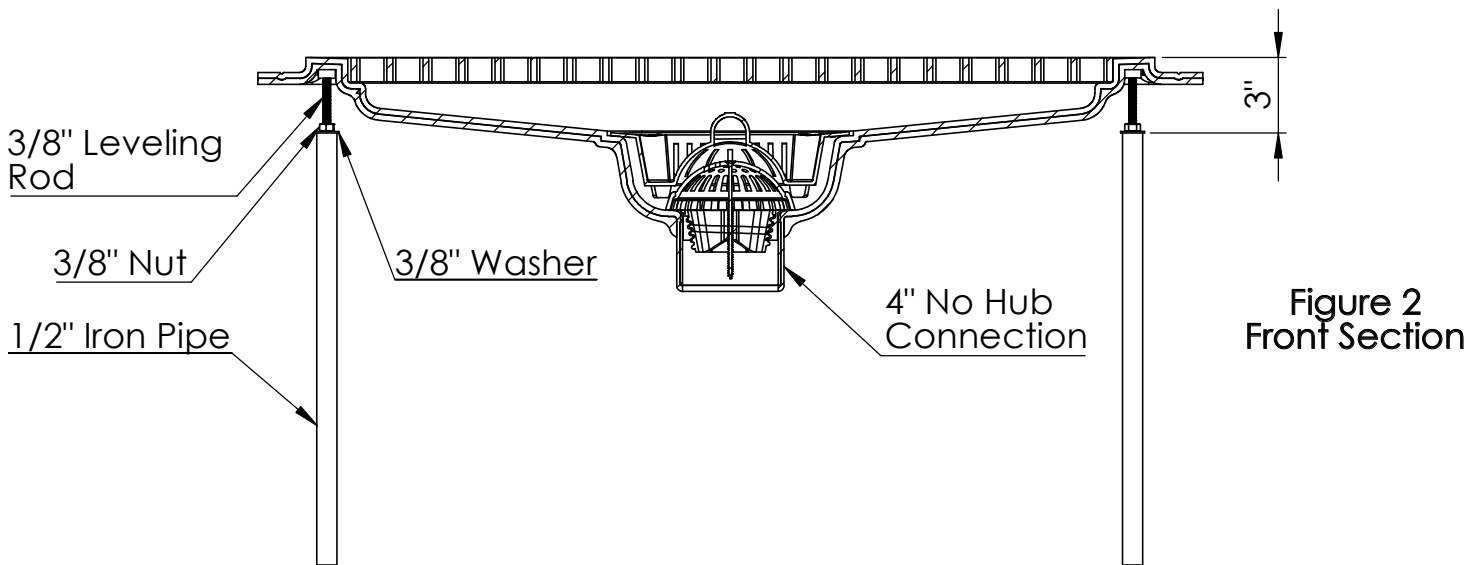

Figure 2
- a. Drop supplied 3/8" leveling rods with washer and nut into each iron pipe stake so that 1" of threads are showing above the nut as shown in figure 2.
- c. Adjust drain with 4 leveling rods. Rods should fit into copper cavity under each corner of the drain as shown in figure 2. Adjust so that the top of drain is level and 1/4" below finished floor 2 feet from any drain direction.